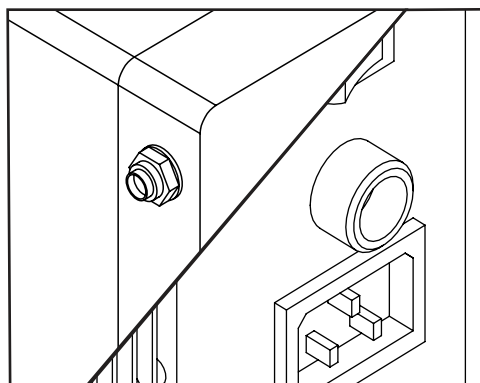

Fig 1
1. Connect the assembled CO2 bottle and regulator to the CO2 inlet on the rear panel (60L) using a 6mm pipe or side panel (30L) using a 1/4" pipe (see Fig 1)